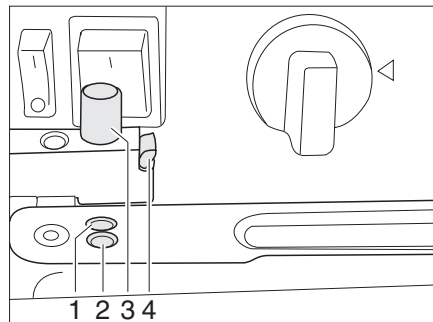

Fig. 92 Lock on refrigerator door
- Push the green retainer lock (Fig. 92,4) to the side to release the locking device. The bolt (Fig. 92,3) will trip.
- Press the bolt (Fig. 92,3) down, so that it engages in the outer drilled hole (Fig. 92,2).
- Press the bolt (Fig. 92,3) down, so that it engages in the inner drilled hole (Fig. 92,1). The refrigerator door will then stay slightly open.